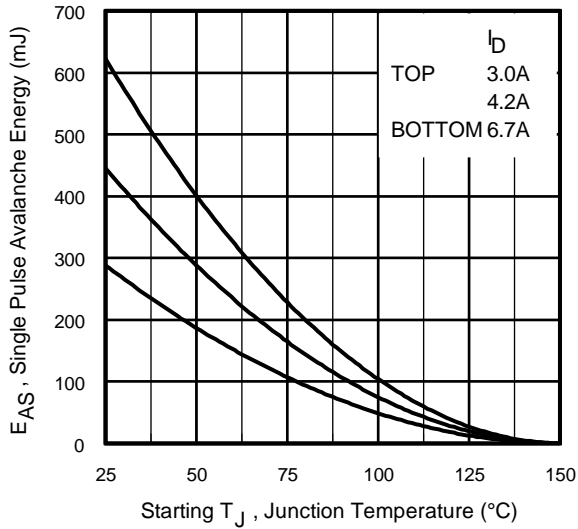

Fig 12a. Maximum Avalanche Energy Vs. Drain Current
- ② Starting $T_J = 25^\circ\text{C}$, $L = 13\text{mH}$, $R_G = 25\Omega$, $I_{AS} = 6.7A$, $dv/dt = 17V/ns$ (See Figure 12a).
- ③ $I_{SD} \leq 6.7A$, $di/dt \leq 330A/\mu s$, $V_{DD} \leq V_{(BR)DSS}$, $T_J \leq 150^\circ\text{C}$.
④ Pulse width $\leq 300\mu s$; duty cycle $\leq 2\%$.
⑤ $C_{oss\ eff.}$ is a fixed capacitance that gives the same charging time as C_{oss} while V_{DS} is rising from 0 to 80% V_{DSS} .